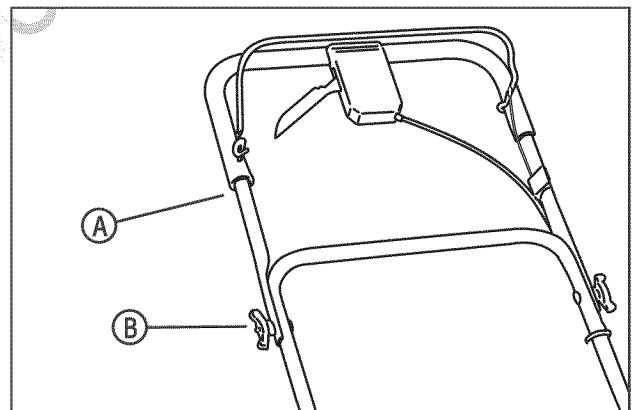

Figure 2: Unfolding the upper handle
4. Put the upper handle (**A, Figure 2**) in the operating (upright) position. Tighten the wingnuts (**B**).